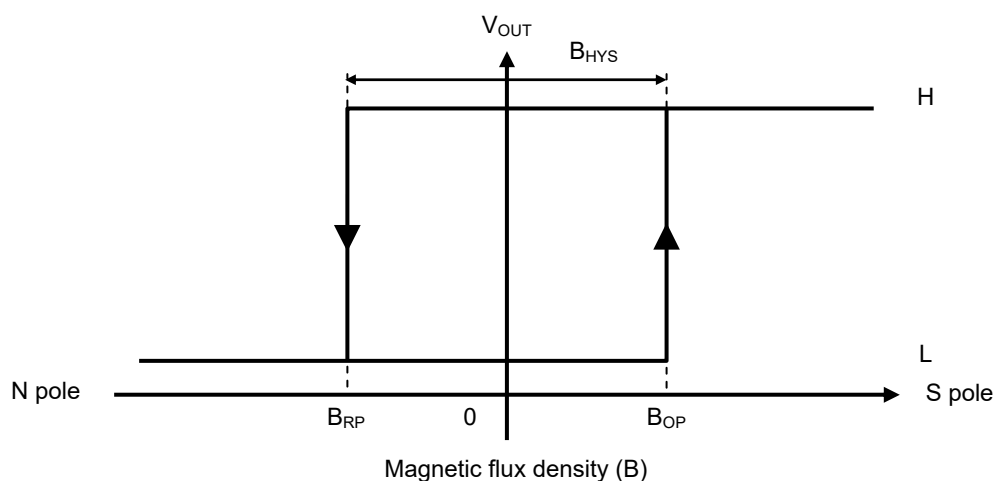

Figure 14
**Figure 14** shows the relationship between the magnetic flux density and  $V_{OUT}$ .